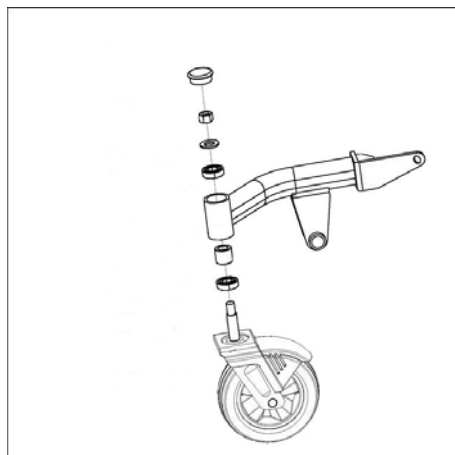

Figure 8. Front Left Caster Assembly shown
4. Remove the cap from caster arm. See figure 8.
5. Remove the nut that fastens the caster wheel to the caster arm. See figure 8.